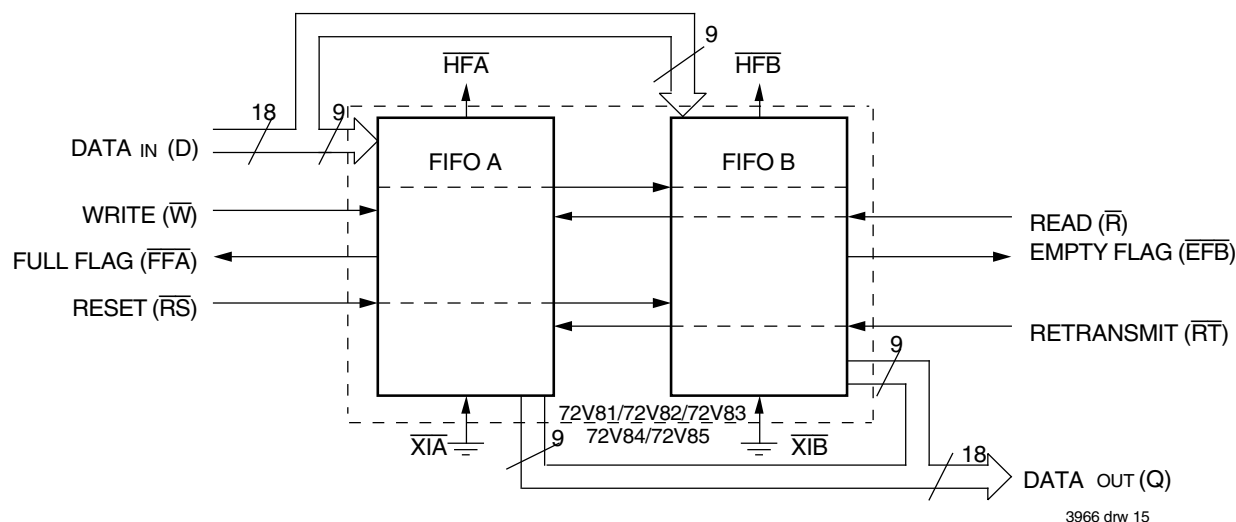

Figure 13. Block Diagram of One 512 x 18, 1,024 x 18, 2,048 x 18, 4,096 x 18 and 8,192 x 18 FIFO Memory Used in Width Expansion Mode
Word width may be increased simply by connecting the corresponding input control signals of multiple FIFOs. Status flags ( $\overline{EF}$ ,  $\overline{FF}$  and  $\overline{HF}$ ) can be detected from any one FIFO. Figure 13 demonstrates an 18-bit word width by using the two FIFOs contained in the IDT72V81/72V82/72V83/72V84/72V85s. Any word width can be attained by adding FIFOs (Figure 13).
2. For Flag detection see section on Width Expansion and Figure 13.